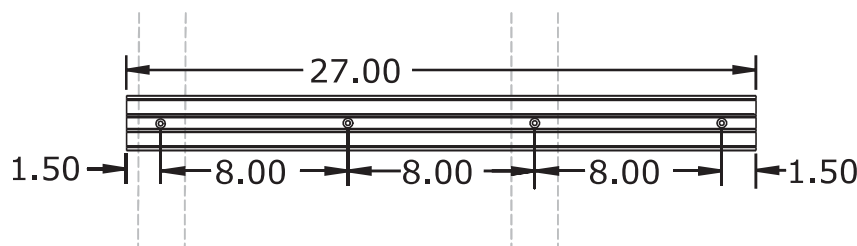

**Fig. 1:** Correct Mounting Positions.
- If wooden/metallic studs are present, follow the guidelines for positioning as shown in **Figure 1 & 2** below. ALWAYS fasten close to stud center or more than 1" away from stud edge.